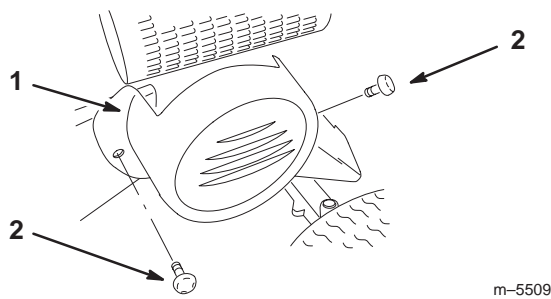

Figure 16
2. Remove the two knobs and belt cover from the tractor (Fig. 16).